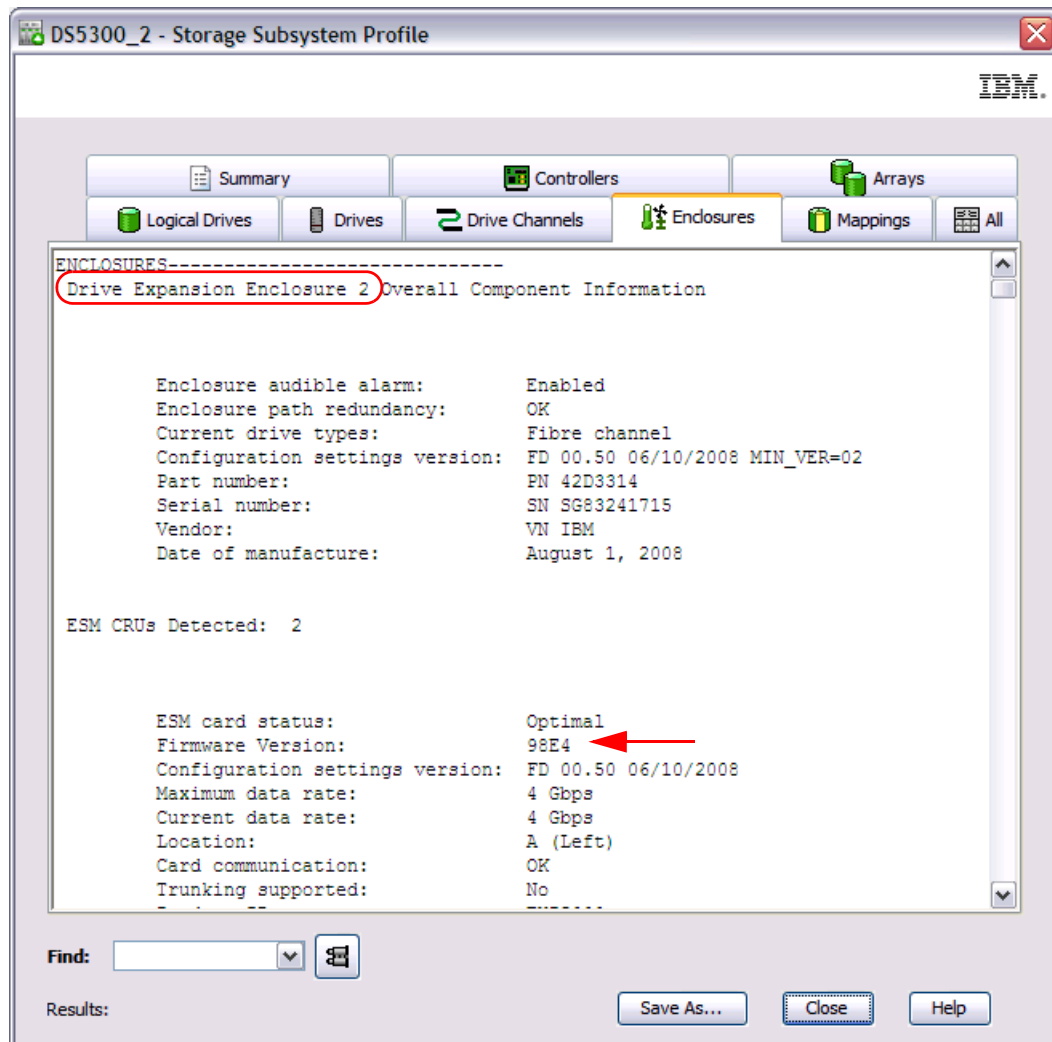

Figure 5-2 ESM firmware in Storage Subsystem profile
- Click the **Enclosures** tab to see the ESM current firmware level. As shown in Figure 5-2, you have to use the scroll bar to show all of the ESM firmware (two per enclosure), as shown in Figure 2-2 by the pointers.